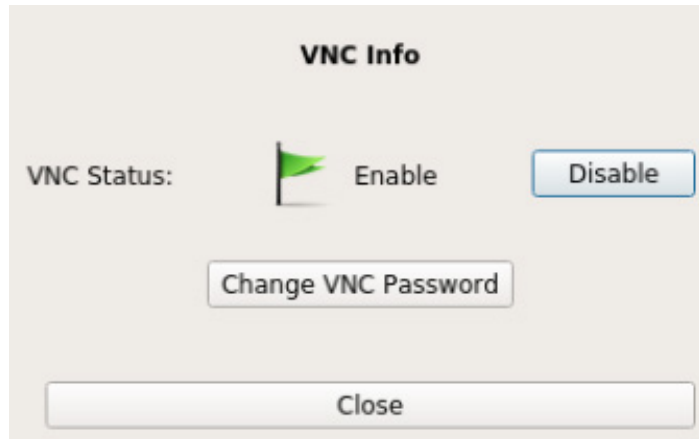

Figure 42 VNC Server Enabled
- 4 To proceed, click **Yes**: The VNC server is enabled, and you can connect to the analyzer via the VNC interface. You can also disable the connection. Click **Change VNC Password**: (Figure 42)